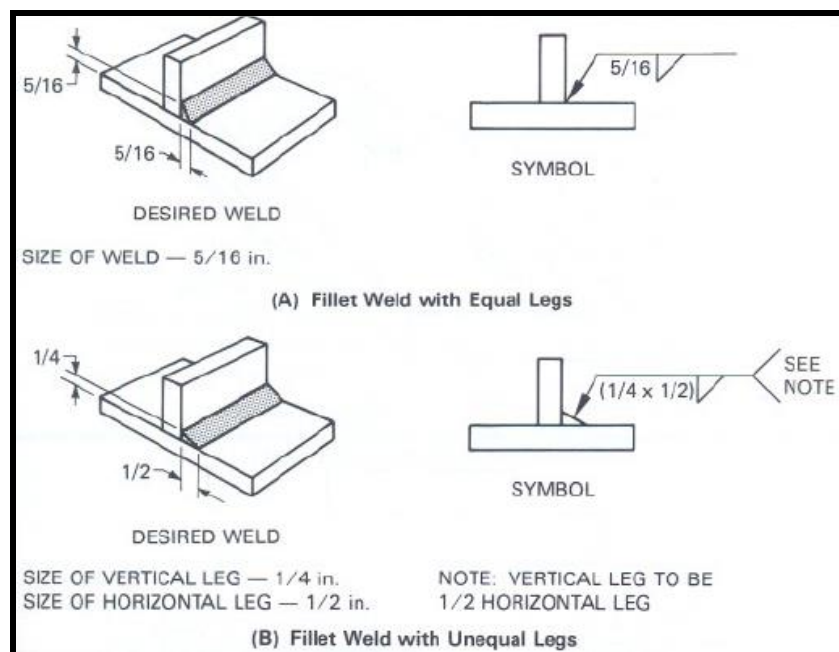

Figure-16: Schematic representations of fillet welds.
Examples of fillet weld symbols along with the desired weld are shown in figure-16. In the figure, (A) shows for fillet weld with equal leg length and (B) shows for unequal leg lengths.